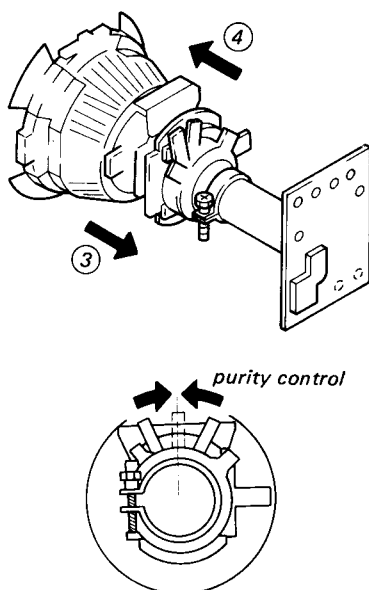

Fig. 4-1.
3. Move the deflection yoke backward, and adjust with the purity control so that red is in the center and blue and green are at the sides, evenly. (Fig. 4-1)